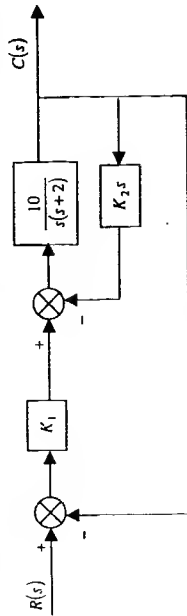

Figure 1.
- For the system of Figure 1, find the values of K_1 and K_2 to yield a peak time of 1 second and a settling time (2% criterion) of 2 seconds for the closed-loop system's step response.